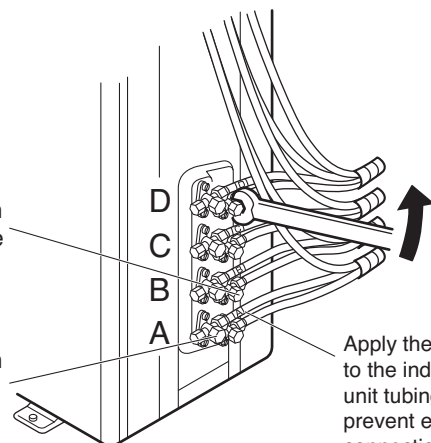

**Fig. 13**
- c) For proper connection, align the union tube and flare tube straight with each other, then screw in the flare nut lightly at first to obtain a smooth match. (Fig. 13)